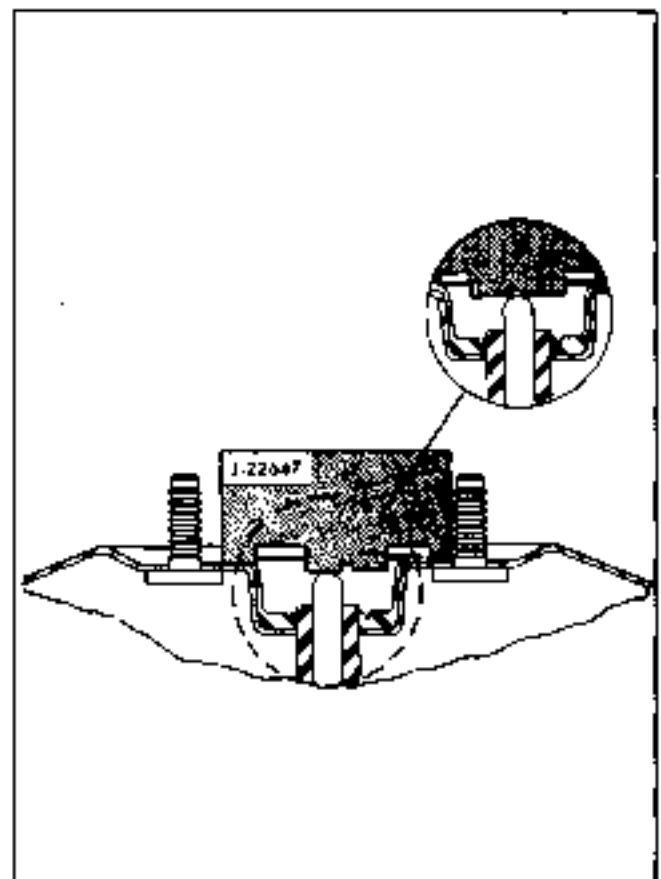

Fig. 5D-16 Gaging Master Cylinder Piston Rod
4. Place gage J 22647 over piston rod in a position which will allow gage to be slipped to the right or left without contacting the studs. (Fig. 5D-16)